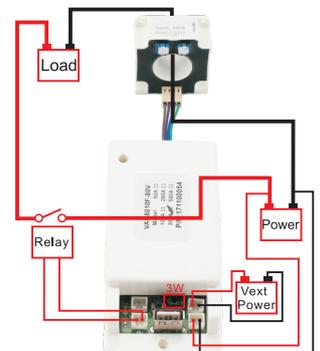

Figure 3-4
**4). Discharge Relay Wiring Instruction (Figure 3-4)**